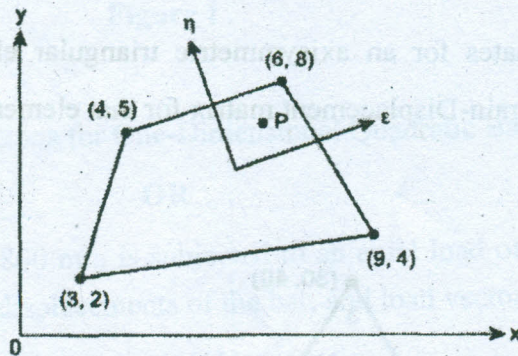

Figure 6
- (b) Evaluate the Cartesian coordinate of the point P which has local coordinates $\epsilon = 0.6$ and $\eta = 0.8$ as shown in fig. 6. (16)